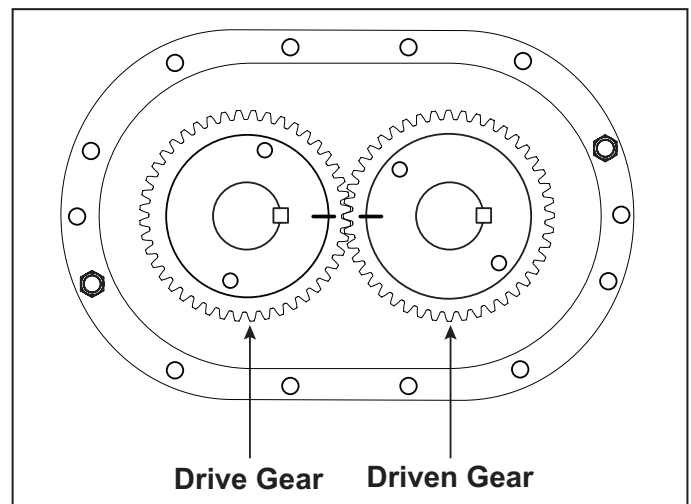
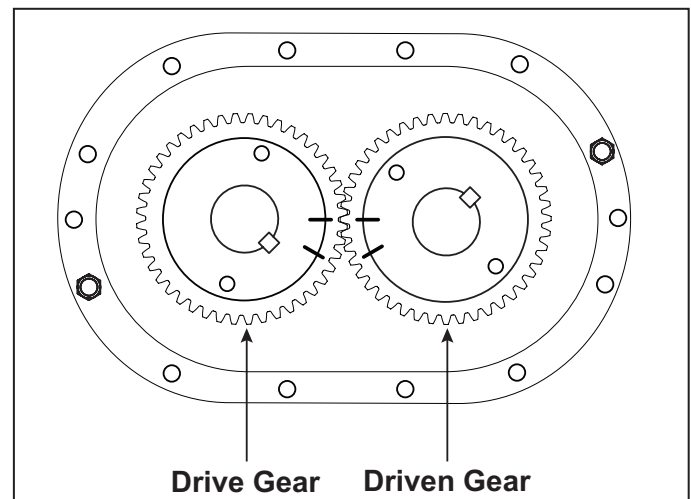

Figure 6A - Keyways in line and timing marks matched
Figure 6B - Timing marks advanced 3 teeth
- a. Align timing marks on gears (Figure 6A). Rotate drive gear clockwise approximately three teeth and mark a matching reference line on each gear as shown in Figure 6B. This gear position is necessary so rotors will clear and not jam. Do not allow the gears to move from the matched reference line while pulling. Use a light rocking motion to insure that the lobes have
9. Insert gear keys [24] in their proper location and flush with top of shaft. Use the two keyways facing to the right. A tight fit is required. Coat shafts and keys with lubricant. Install drive gear (right hand helix) on drive rotor (left side). To install driven gear, align reference marks as shown in Fig. 6B. Install driven gear carefully to avoid damaging any teeth when engaging opposite gear. Secure with spacers [57], washers [25], and flat head Allen screws [29]. NOTE: All timing gears must be used in sets, as they are matched and serially numbered.